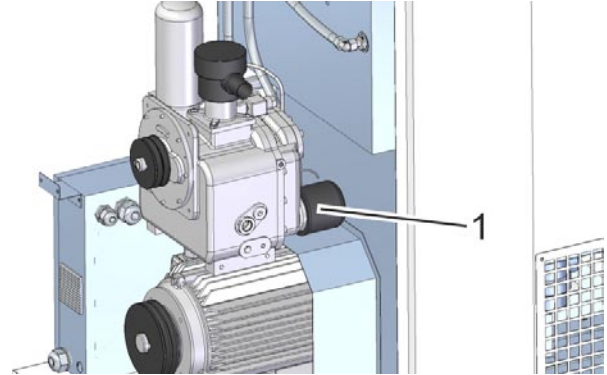

Fig. 37: Removing the oil filter
7. Use the strap wrench to unfasten and remove the old oil filter (Fig. 37/1).
10. Screw in the new oil filter (Fig. 37/1) all the way.
11. Tighten the new oil filter (Fig. 37/1) half a turn by hand.